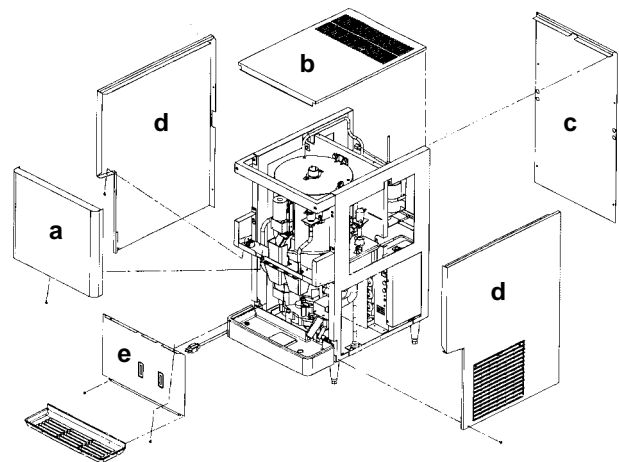

Fig. 2
2. HOW TO REMOVE PANELS - See Fig. 2